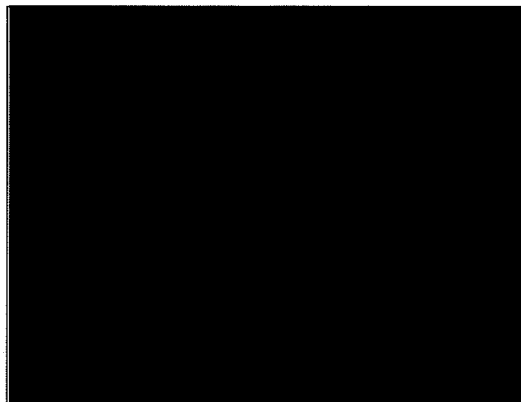

Figure 34
8. Turn the valve housing to the left (see figure 34).